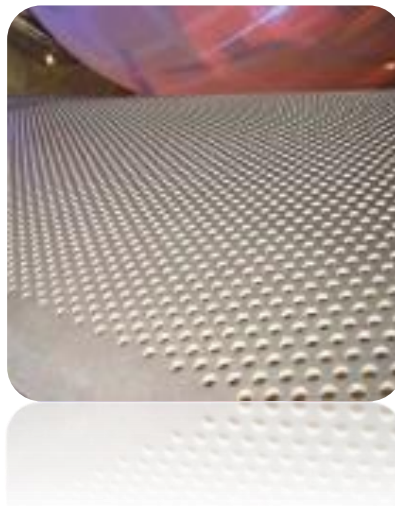

Figure 1: Circular perforation
-« **C GAD07** » circular perforation, where the diameter of each circle is 3.5mm.(figure 1)